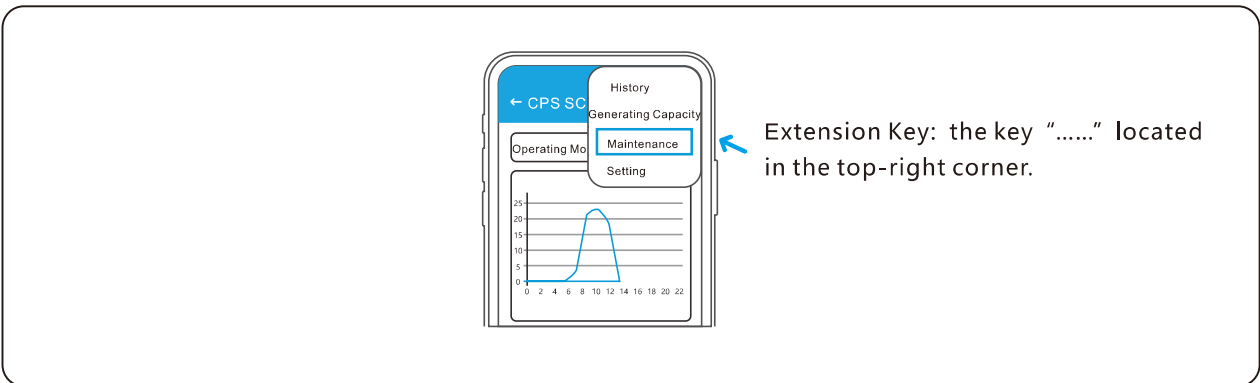

Figure 5.22 APP homepage setting
**Step 2** Click the Extension Key, and select Setting in the prompt manual, as shown in Figure 5.22.